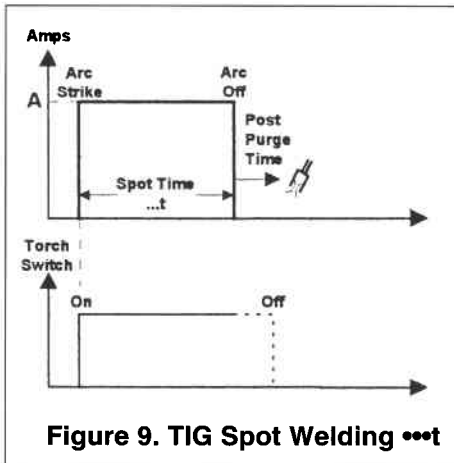

Figure 9. TIG Spot Welding ●●●t
8. TIG Spot Welding (2 Stroke Torch Switch and HF Start), see Figure 9.